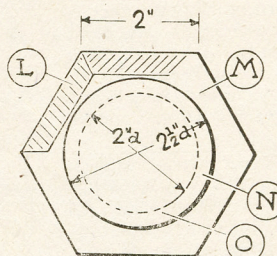

Fig. 5—Alternative model with six sides
There is no handle at the back, by the way. Though a square pot is quite effective, an even better effect is obtained with a six-sided one, but this is much more difficult to make as the sides ((L) Fig. 5) have to have their edges bevelled accurately. The top (M) will now be hexagonal, but may have a round hole, 2in. diameter in the centre. The lid, made of two parts, (N) and (O) will also be circular.